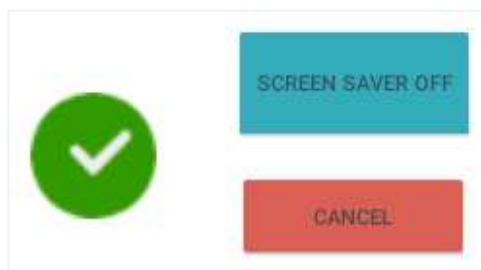
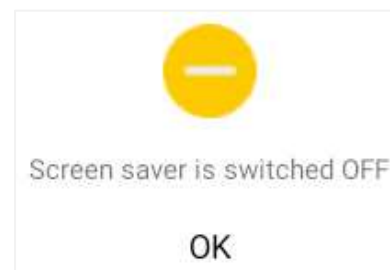

Fig. 31
Fig. 32
3. To disable the "SCREEN SAVER" function, tap "SCREEN SAVER OFF" in the status window (Fig. 31) and confirm with "OK" (Fig. 32).